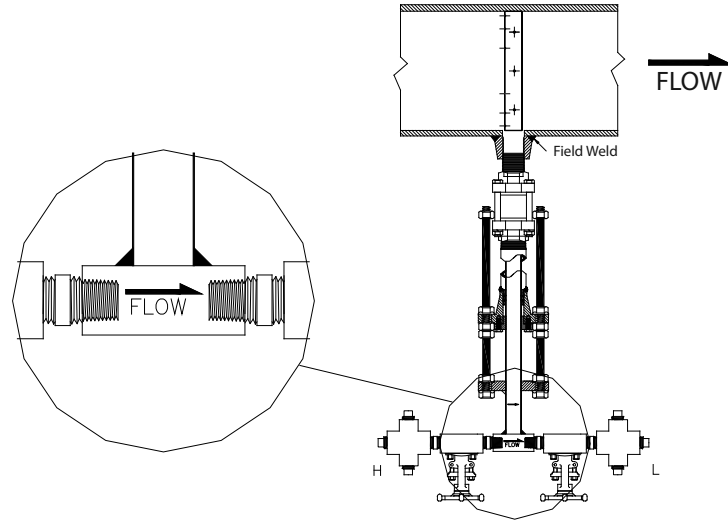

FIGURE 3 – Sensor Alignment
- Install the cage nipple, cage nipple assembly and packing gland with the threaded rods assembly by threading it into the isolating valve. Align the arrow on the sensor head with the direction of flow. See **Figure 3**.